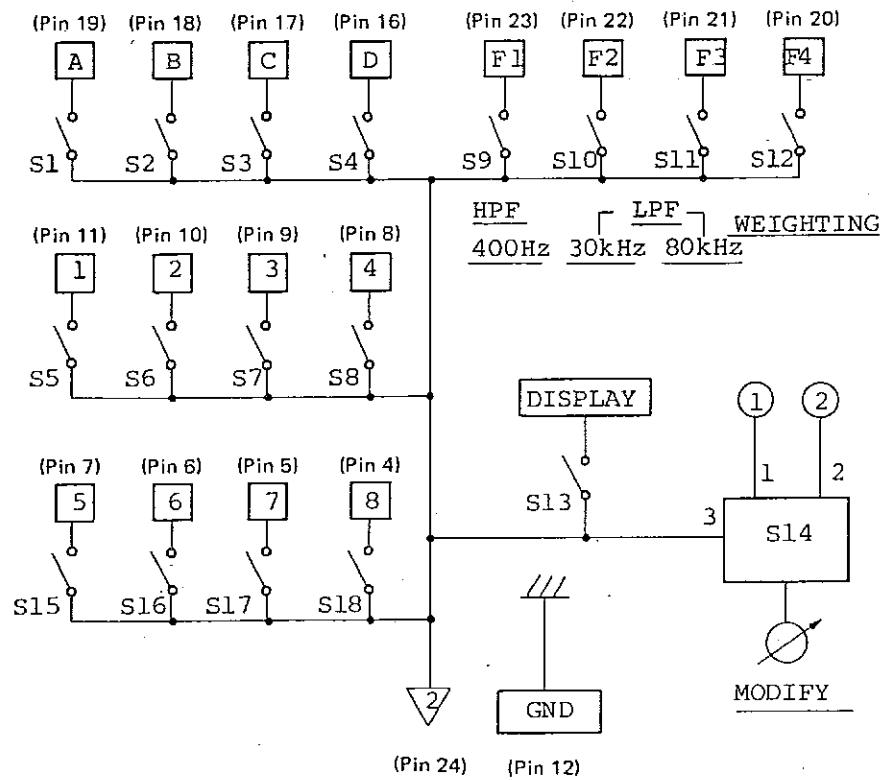
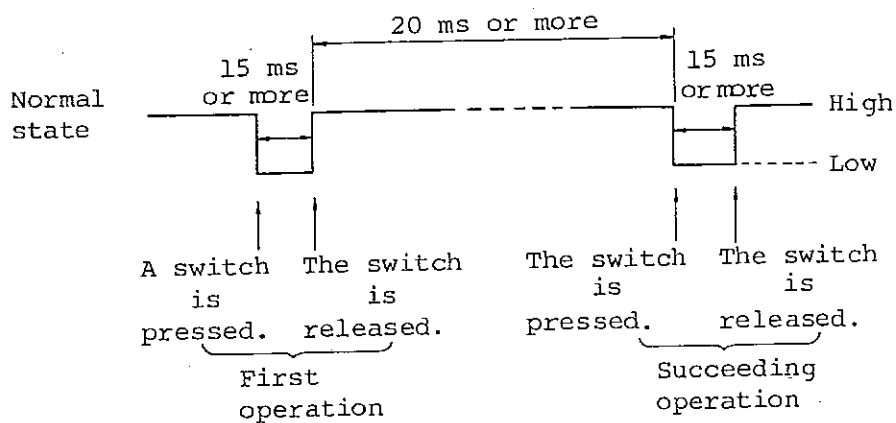

Fig. 4-18 Example of a remote control fixture
Fig. 4-19 Switching conditions
Figure 4-18 shows an example of basic connection of a remote controller which can control operations (1) to (5) in a).
Switching conditions applied to S1 to S12 in Fig. 4-18 are shown in Fig. 4-19.